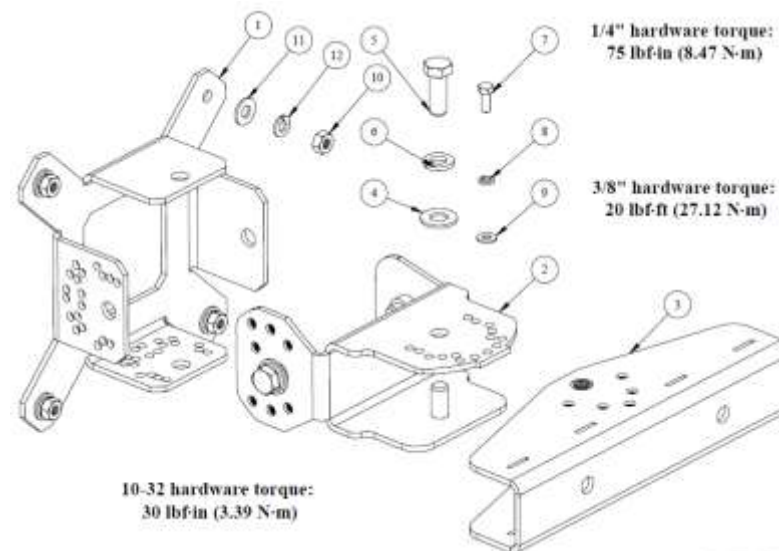

Figure 14: 91900325 bracket details
Kit 91900325 (Figure 14) is sold separately and can be used instead of 91900324. Kit 91900325 is identical to 91900324-01, except the Antenna Mount Stadium Bracket (1) is included in this kit; consequently, some extra hardware is provided, i.e., (10), (11), and (12).